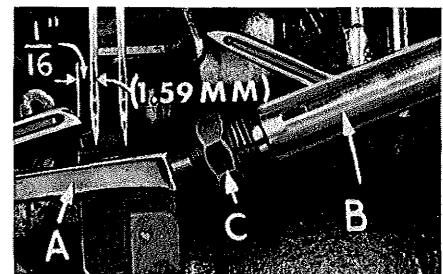

Fig. 5
At this point, insert lower looper (A, Fig. 5) into bar (B). With the lower looper at the left end of its stroke, set looper point $1/16$ inch (1.59 mm) from center of left needle (Fig. 5), using looper gauge No. 21225-1/16. Do not have lower looper deflecting needle. Tighten nut (C).